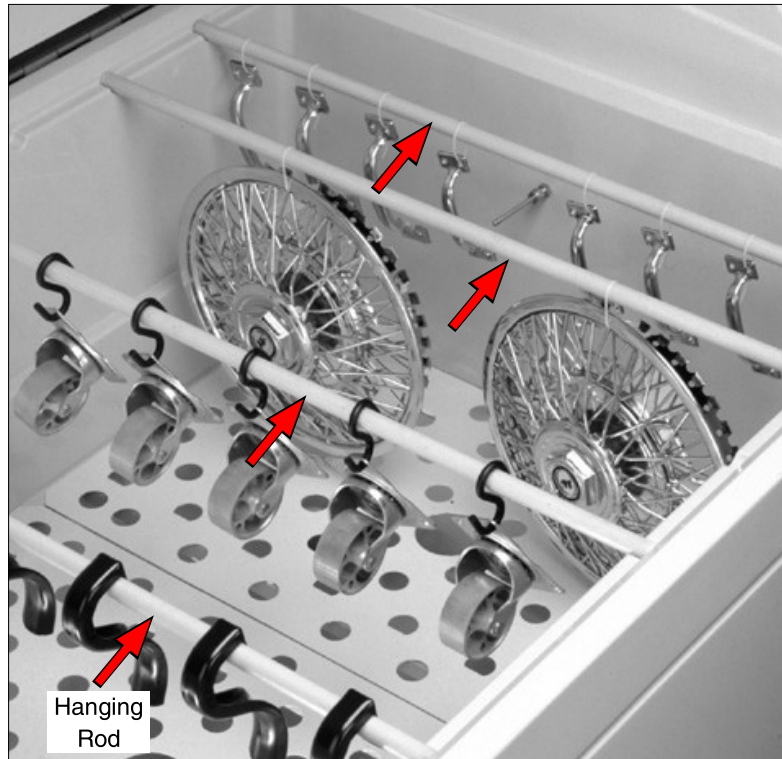

Figure 10.2c: 3D parts suspended from hanging rods in chamber.
- Three dimensional (3D) parts can be suspended from hanging rods (Figure 10.2c and Figure 10.2d).